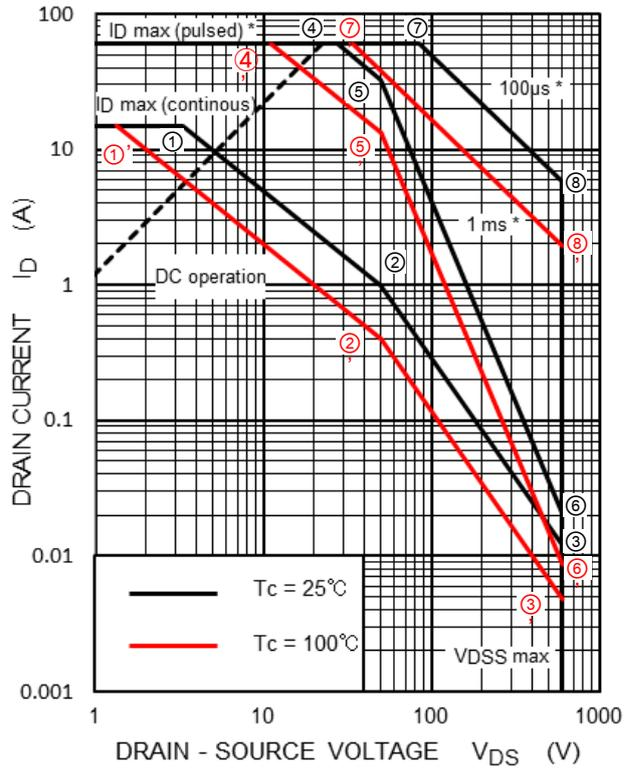

Figure 3.2 Temperature derating of the safe operating area
In Figure 3.2, ① and ② are in the area bound by the thermal limitation. ① and ② lie on the iso-power line of $P_D(\max) = 50 \text{ W}$ ($V_{DS} \times I_D = 50 \text{ W}$). At $T_c = 100^\circ\text{C}$, The power dissipation is derated to a 20-W iso-power line derived from Figure 3.1. ①' and ②' can be calculated using Equation 3-3 and Equation 3-4 by derating V_{DS} at ① and I_D at ② to 40% using Equation 3-2.